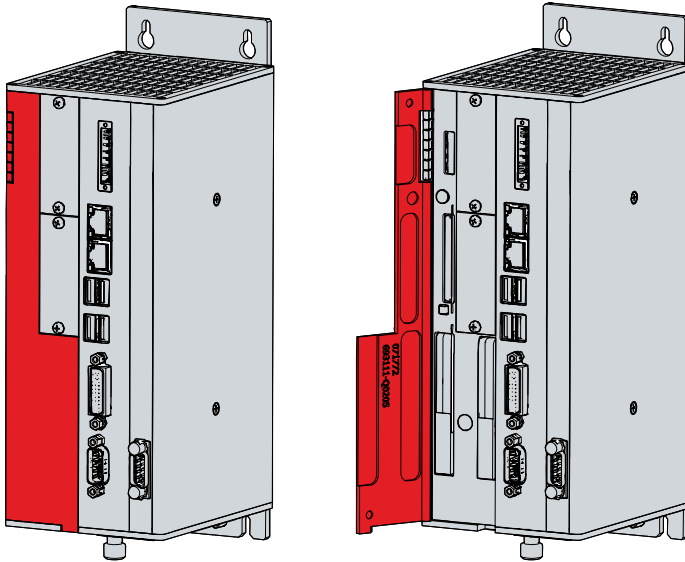

Fig. 25: Tool-free access to battery and storage media
2. Insert the new battery into the PC by hand. Pay attention to the correct polarity. The negative pole of the battery must point towards the voltage socket of the industrial PC (see Fig. 25).